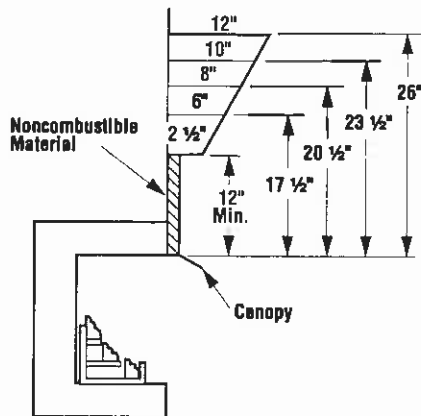

Figure 4
Step 4. Noncombustible material (minimum requirements) with wood mantel or other combustible projections: To install the firebox with a wood mantel, shelf or other combustible projection above firebox opening, at least 12" of noncombustible material must be installed above the fireboxes described in this manual (Figure 4).
WARNING: THE CANOPY HOOD MUST BE IN PLACE TO BE IN COMPLIANCE WITH THE CLEARANCES SPECIFIED IN FIGURE 4.